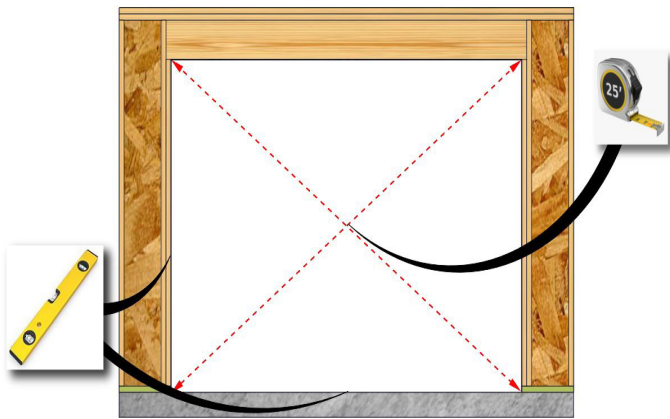

Fig. 5
3. Verify the rough opening is flat, plumb, level, and square. (Fig. 5)